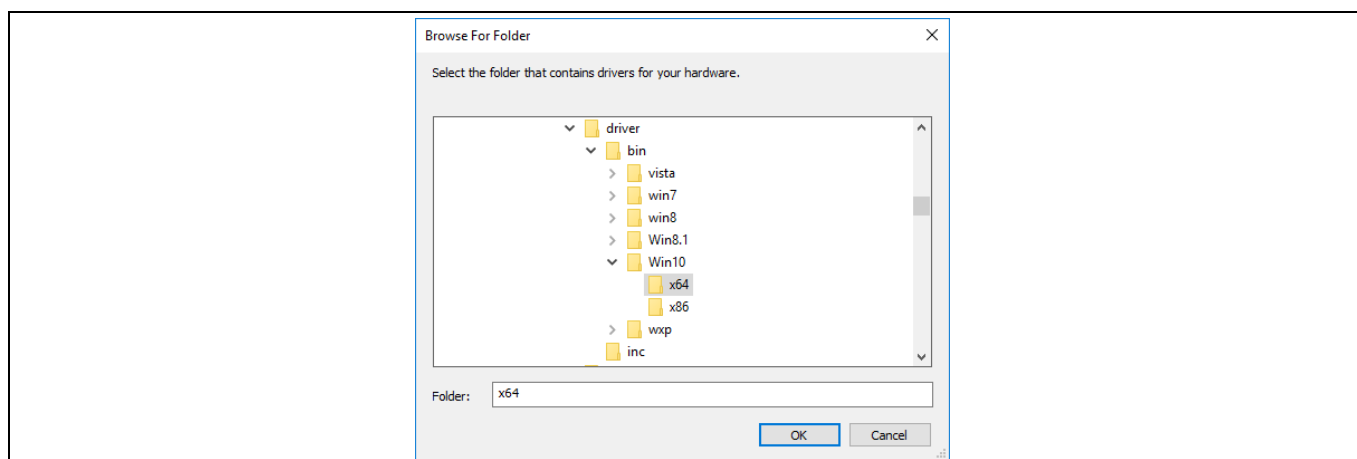

Figure 27 Manual Driver Binding-Step 3
4. Click **OK** and press **Next** as in Figure 27. The operating system acknowledges successful driver installation.